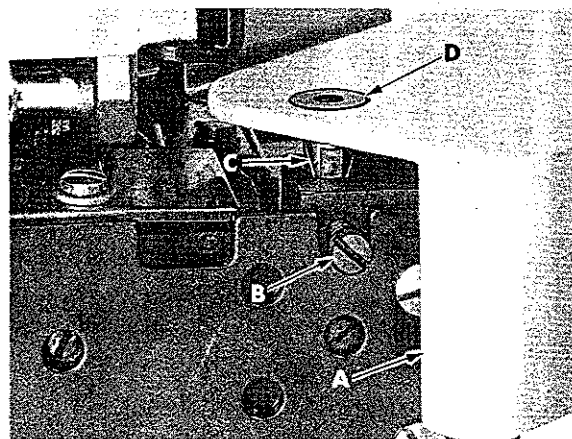

Fig. 6
Remove cloth plate (A, Fig. 6) by loosening screw (B) and lifting upward with stud (C) and screw (D) still assembled to plate.